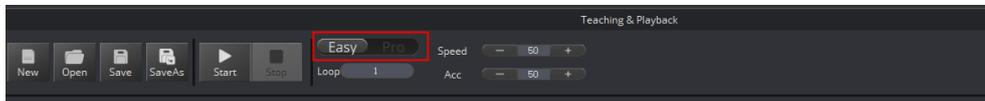

Figure 5.209 Switch advanced function
Step 1 Click  icon on the **Teaching&Playback** page, as shown in Figure 5.209.